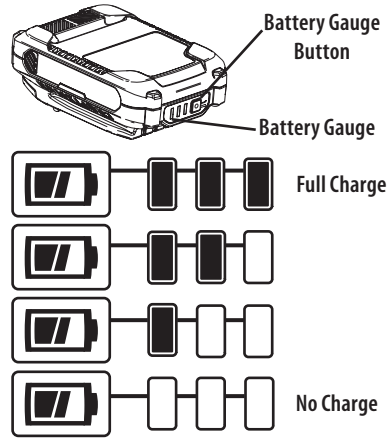

Figure 34
1. Press the battery gauge button on front of the battery pack to check charge level (Figure 34):